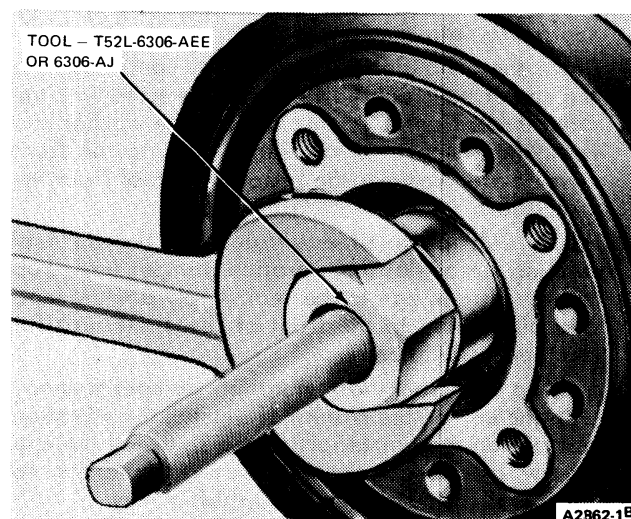

FIG. 28 Installing Crankshaft Vibration Damper
13. Line up the crankshaft vibration damper keyway with the key on the crankshaft. Install the vibration damper on the crankshaft using Tool T52L-6306-AEE (or 6306-AJ) or equivalent (Fig. 28). Install the cap screw and washer. Tighten the cap screw to specification. Install the crankshaft pulley.
- Line up the crankshaft vibration damper keyway with the key on the crankshaft. Install the vibration damper on the crankshaft (Fig. 28). Install the cap screw and washer. Tighten the screw to specification. Install the crankshaft pulley.